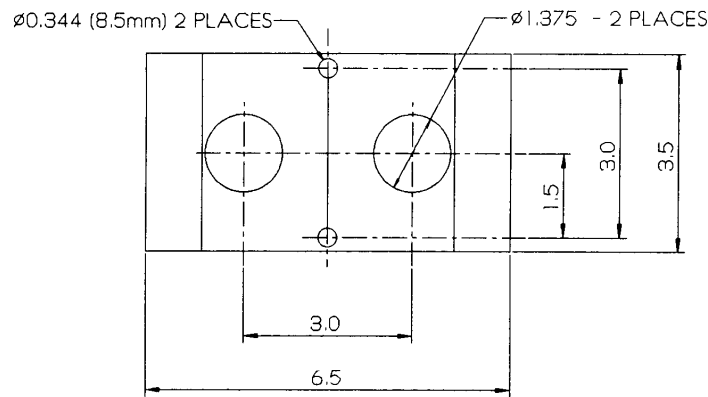

Fig 1. Drilling of rubber block.
4. Refer to figure 1 and drill out the existing holes in the rubber block to 1 3/8" diameter with a hole saw.
5. Drill 2 new holes 11/32" or 8.5mm diameter as convenient, as shown in figure 1, in the rubber block.